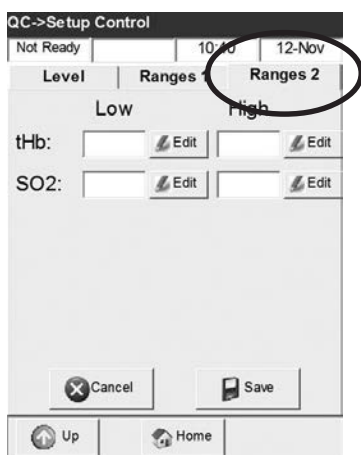

Fig. 4-13 Confirm Assay Ranges 2
7. Press **<Ranges 2>** to go to the next display to enter the ranges for all other measured parameters available with this control material (Fig. 4-13). Enter 0.0 for unassayed parameters.